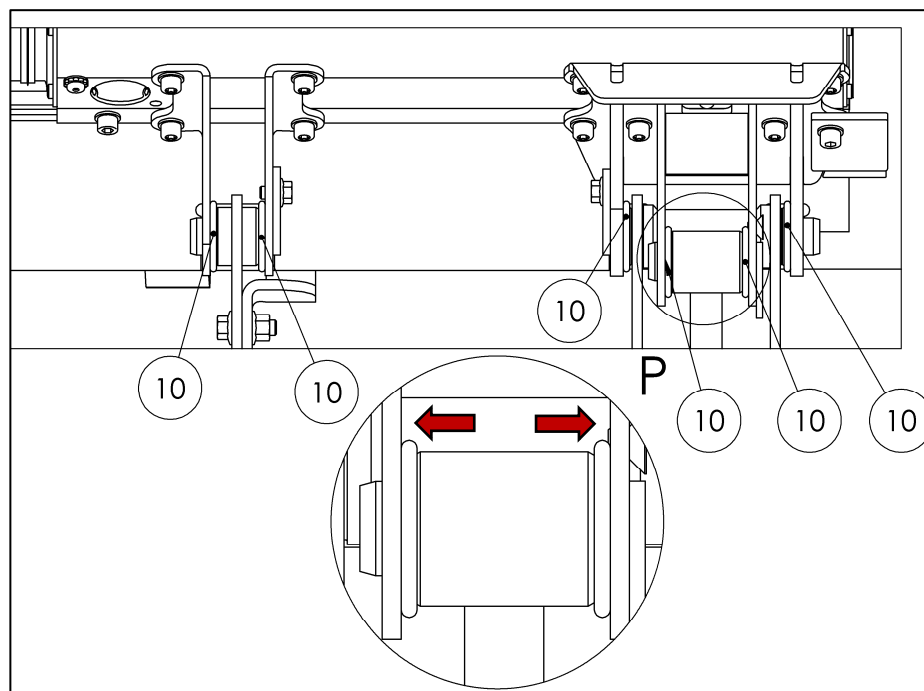

Fig. 56
- Move the 6 pre-fitted O-rings (accessories kit parts list – Item No. 10) into their correct positions (see Fig. 56).